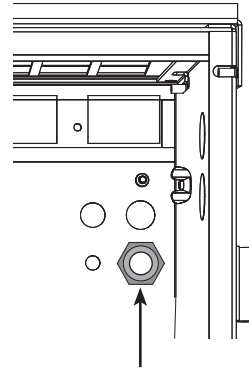

Fig. 1, Knockout location
1. Use the hammer and punch to remove the 0.875" diameter knockout from the rear of the enclosure and attach the included through-enclosure weather-resistant grommet (see Fig. 1). Tighten with adjustable wrenches.